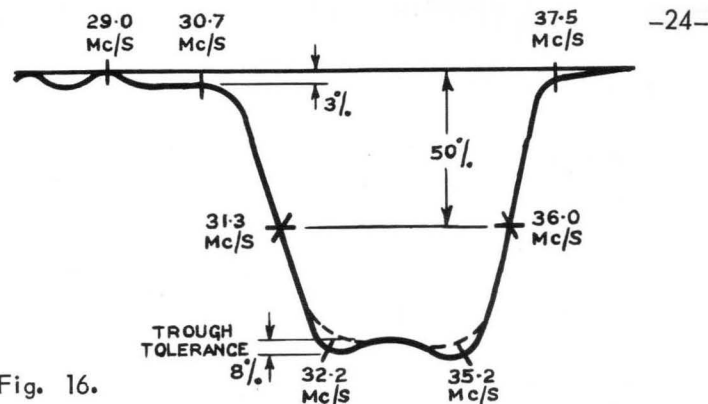

Fig. 16.
7. Adjust the sweep generator to display the overall IF response curve and set the signal generator to note the response at the desired frequencies as seen in Fig. 16.
8. Correct the response if necessary by retouching the composite IF tuning cores to obtain a response within the limits shown in Fig. 16.